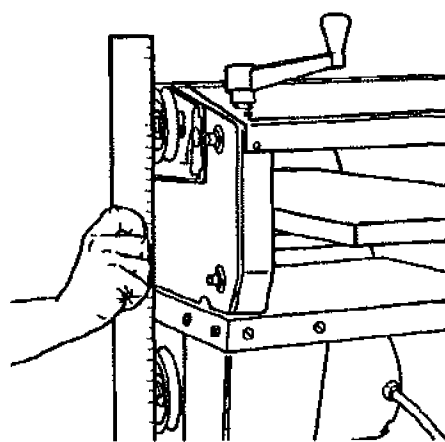

Fig. 34
41. Hold a straightedge against the two pulleys, as seen in Fig. 34.